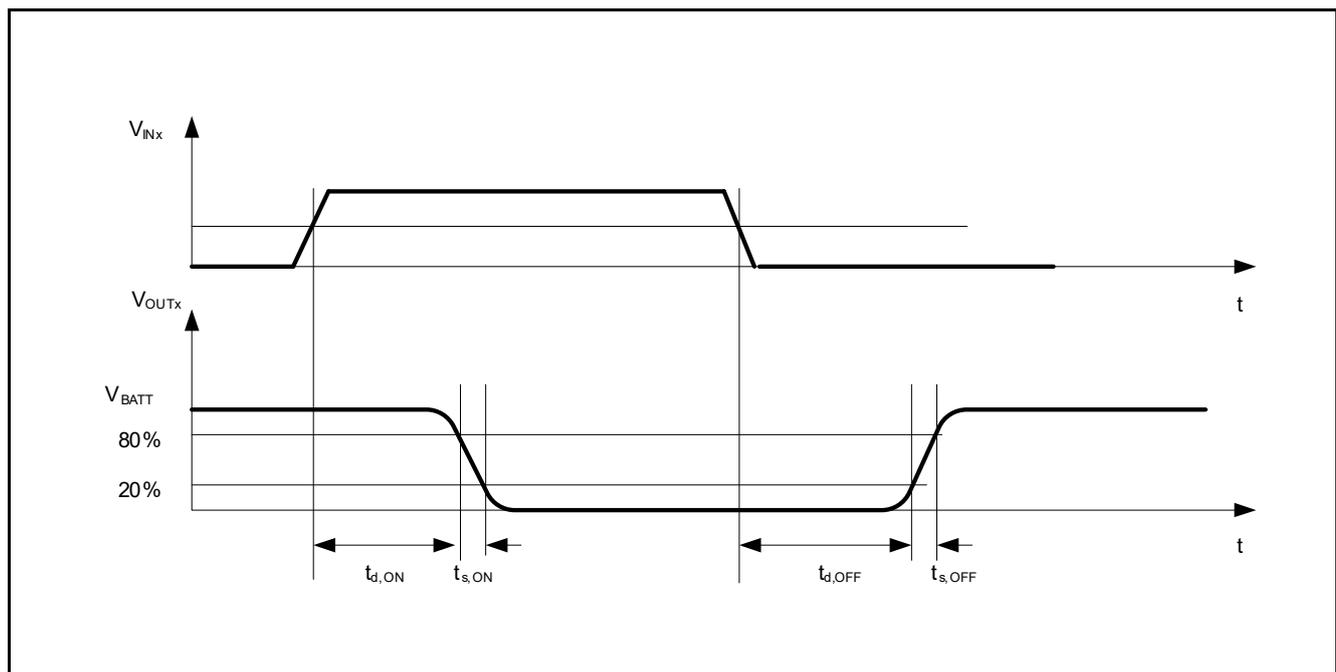
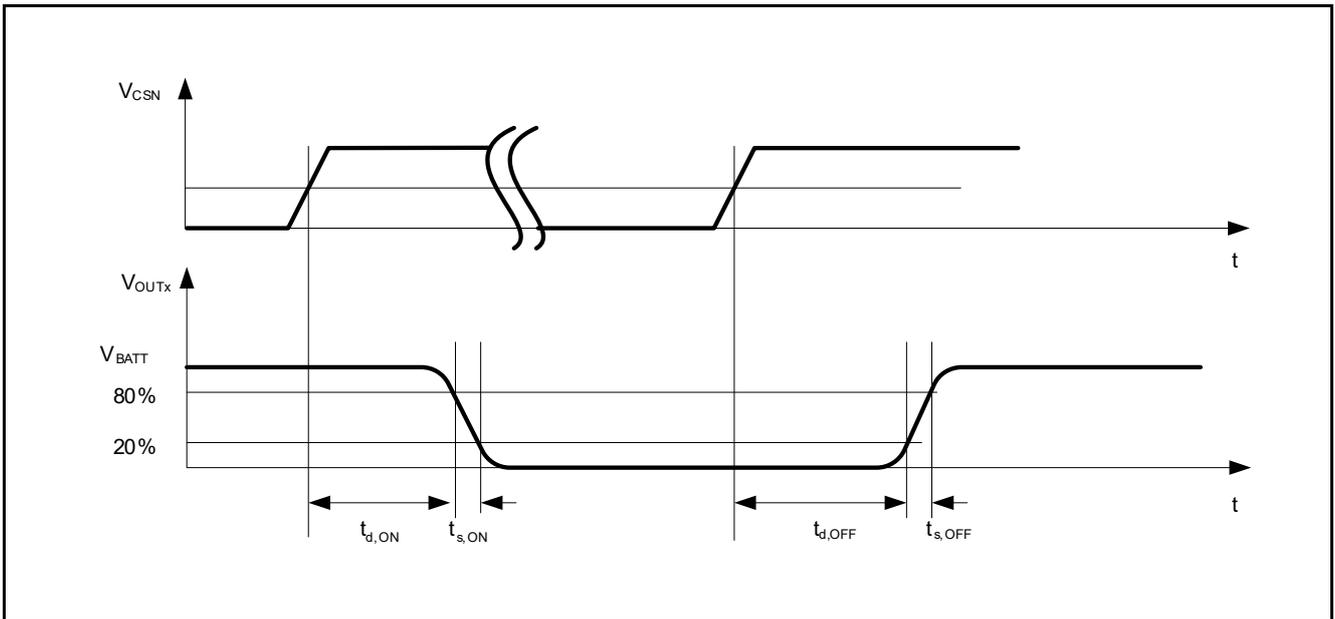

Figure 7 Timing low side switches channel 1 and 3
Figure 8 Timing low side switches channel 2, 4 and 5
- 1) Definition of timing see Figure 7 or Figure 8.